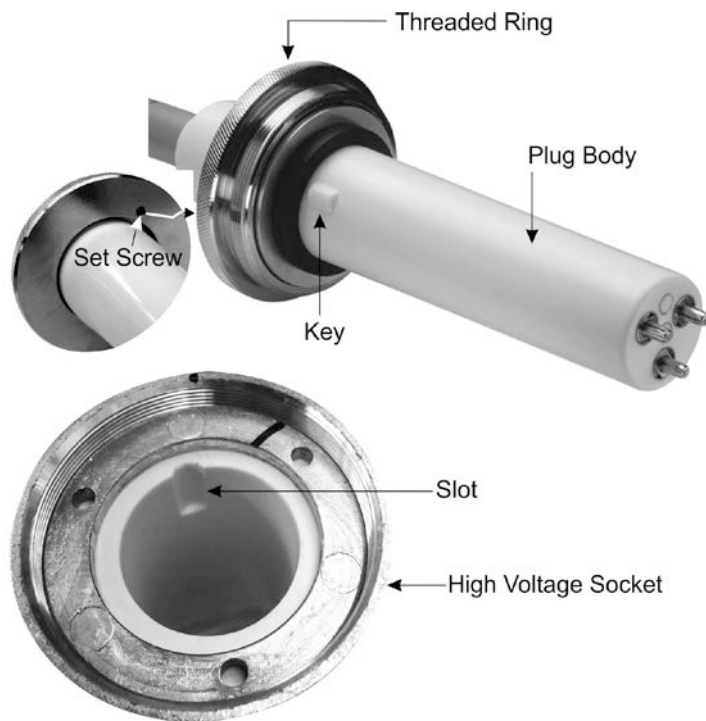

Figure 9B: HV cable and socket
Refer to Figure 9A and Figure 9B to install the HV cables:
- a) In the **ANODE (+)** HV Socket, first identify the **Slot** in the socket and visually align it with the **Key** on the **ANODE** Plug Body as shown in Figure 9B. Then insert and push the Plug Body into the socket until it is firmly seated.
- b) In the **CATHODE (-)** HV Socket, first identify the **Slot** in the socket and visually align it with the **Key** on the **CATHODE** Plug Body as shown in Figure 9B. Then insert and push the Plug Body into the socket until it is firmly seated.